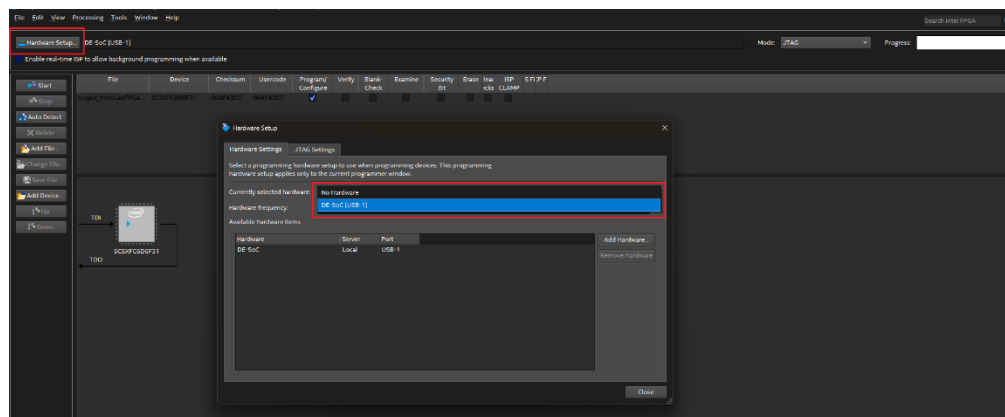

Figure 15. Select Hardware
32. Once the Programmer window opens, **click on Hardware Setup** in the upper-left corner. A new window will appear — under Currently selected hardware, choose the FPGA connected to your computer, as shown in Figure 15. Then click Close.